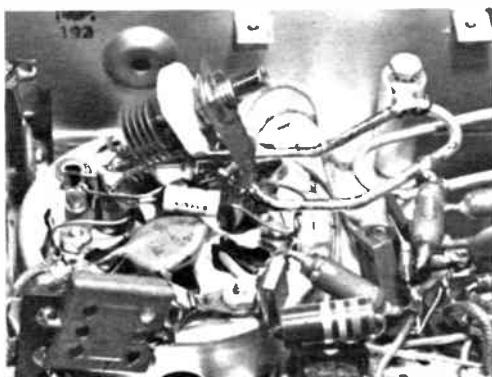

fig. 15. This photo shows the 8-pF air variable which is installed between the grids of the final amplifier.
3. Install a 1-to-8-pF variable capacitor across the grids of the final amplifier. The E. F. Johnson 160-104 capacitor shown in fig. 15 does an excellent job but any similar air variable should work as well. This modification increases grid drive, improves efficiency, and raises the power output of the 829B final. An insulated tool must be used for adjusting this capacitor.